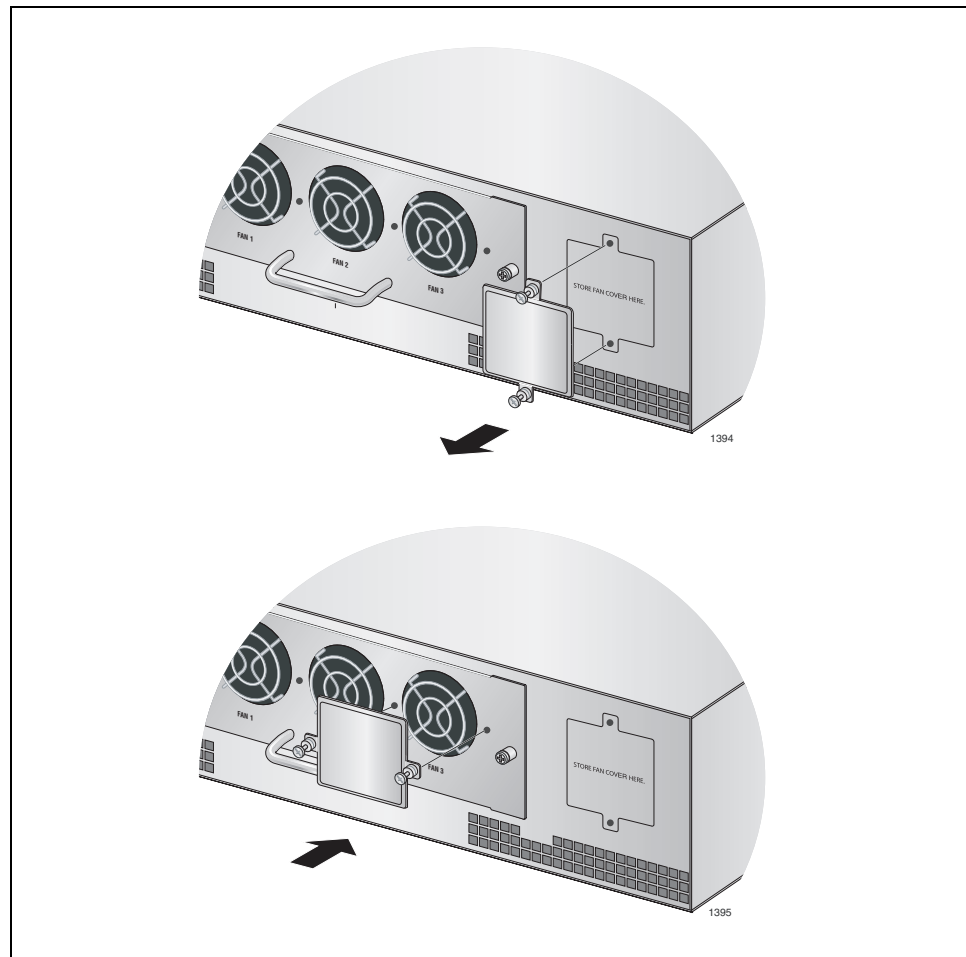

Figure 84. Covering a Broken Fan on the AT-MCF2300FAN Module
**Solution:** The fan has failed. As a temporary measure while waiting for the replacement module, cover the broken fan with the fan cover mounted on the back panel of the AT-MCF2300 Chassis, as shown in Figure 84 on page 152. The effectiveness of the remaining fans in maintaining proper air flow and cooling in the chassis is increased if the broken fan is covered.